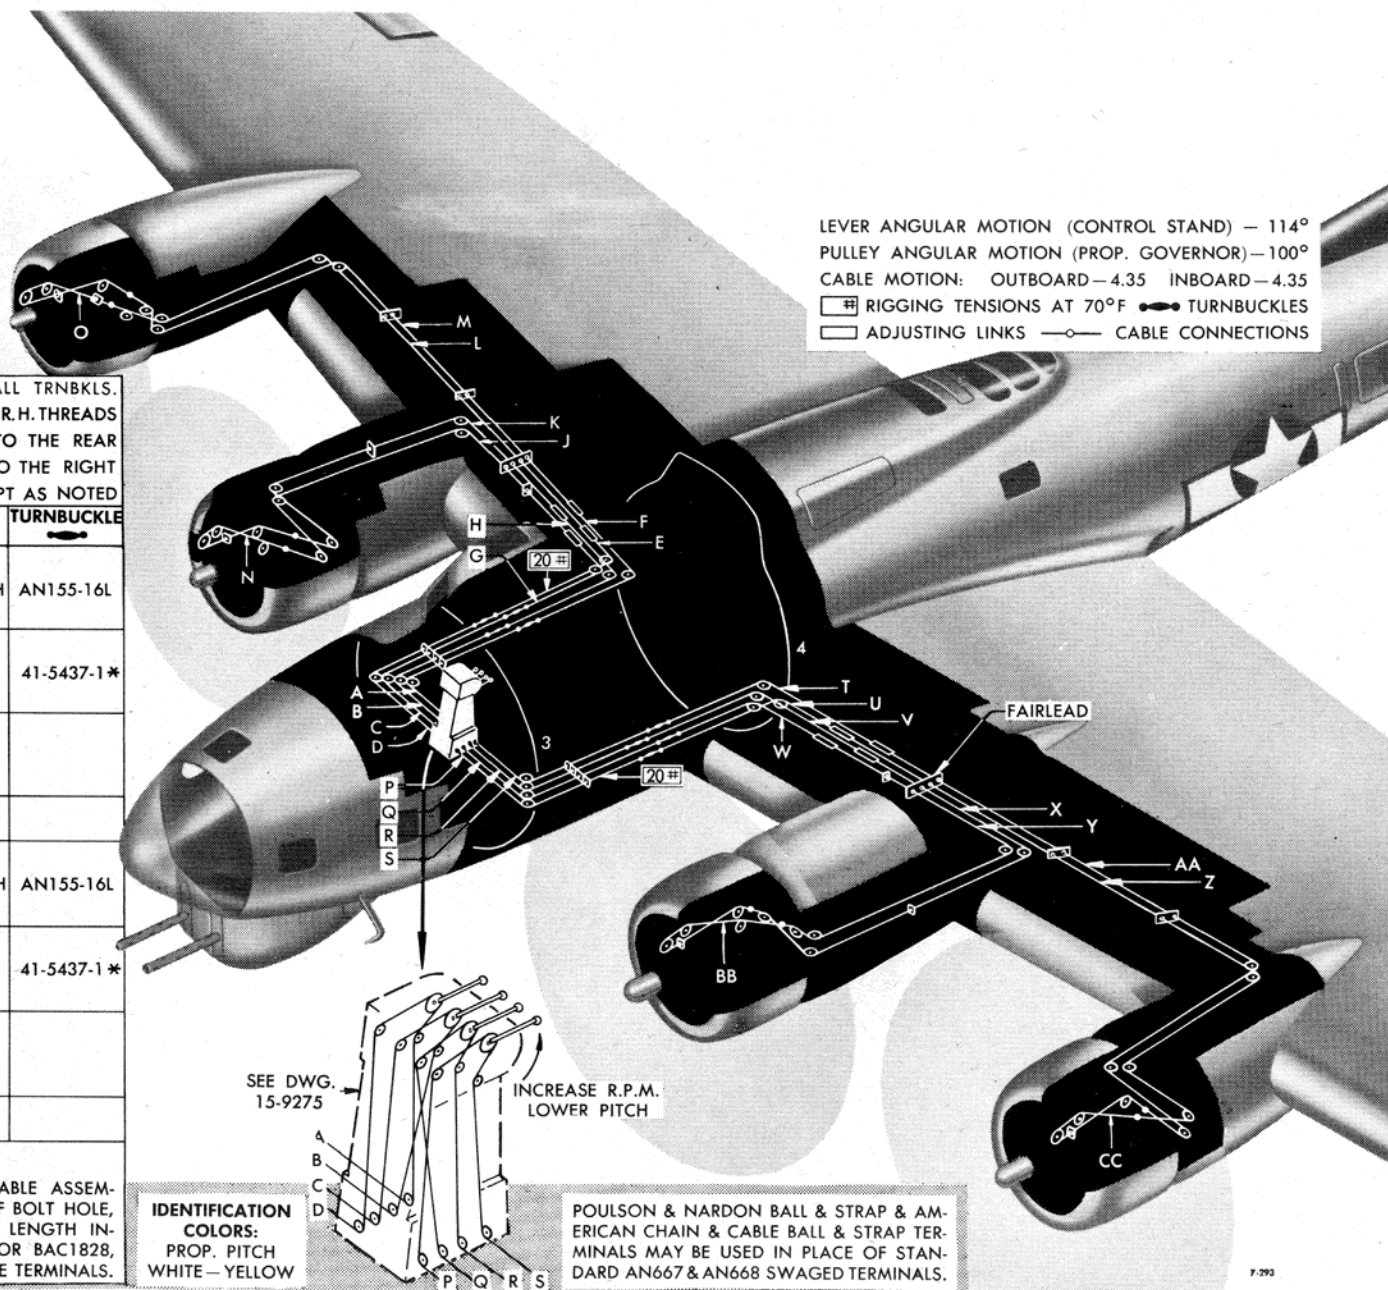

Figure 168—Propeller Pitch Control System
6. Rig control cables as directed on figure 168.